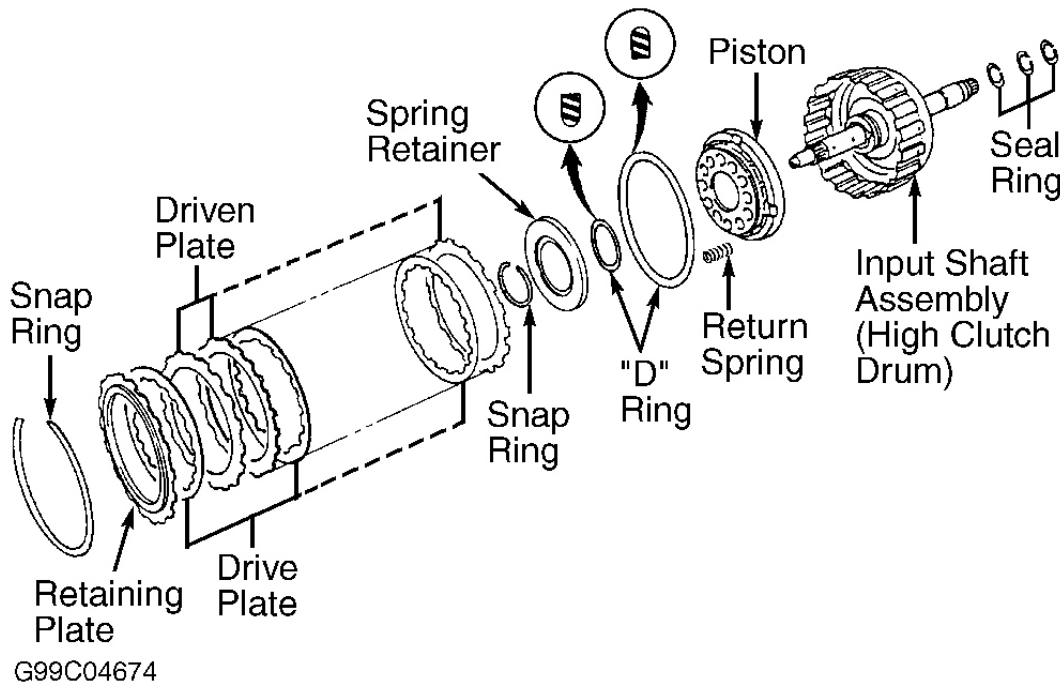

Fig. 32: Exploded View Of High Clutch
Remove seal rings from input shaft. Service procedures for high clutch are the same as for reverse clutch. See **Fig. 32**.
2. Lubricate "D" rings and with ATF, and install on high clutch piston. Ensure "D" rings are installed in correct direction. See **Fig. 32**. Install piston assembly in clutch drum while slowly turning clockwise. Install return spring and spring retainer on piston. Do not align snap ring gap with spring retainer stopper. Compress springs and install snap ring. Install drive plates, driven plates, retaining plate and snap ring.